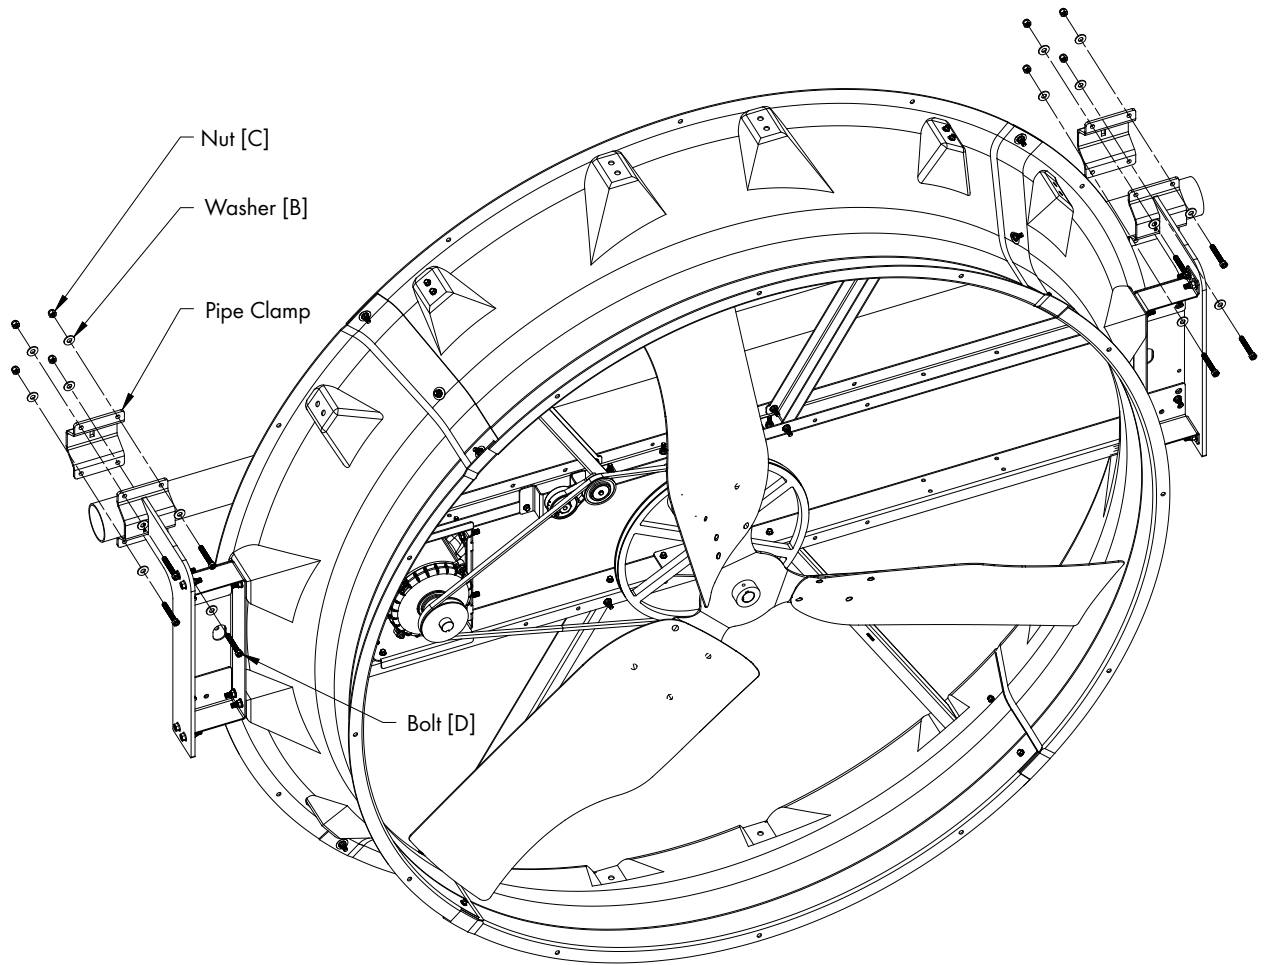

Figure 2
Secure fan with Pipe Hanger Brackets to pipe using (2) Pipe Clamps and (8) Bolts [D], (16) Washers [B] and (8) Nylock Nuts [C]. See Figure 2.